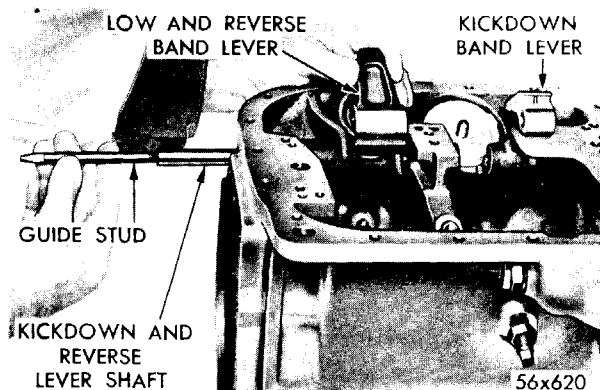

Fig. 47—Removal and Installation of Kickdown and Reverse Lever Shaft
(1) Remove kickdown and reverse lever shaft stop plug at rear of transmission case.
(2) Using pliers, remove kickdown and low-reverse shaft lever spacer (flat).
(3) Thread a guide stud, Tool C-3288, into shaft, and remove shaft from case, as shown in Figure 47 and remove kickdown and low-reverse servo levers.